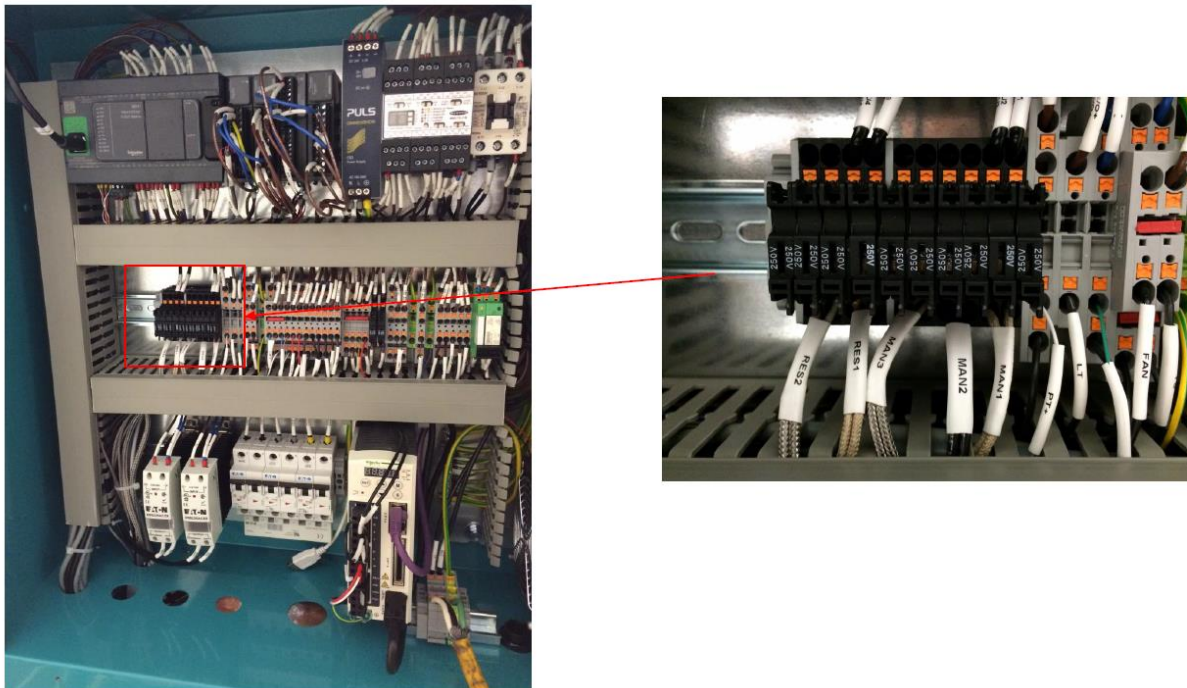

Figure 40: Fuse block location
- The fuse blocks are shown in Figure 40